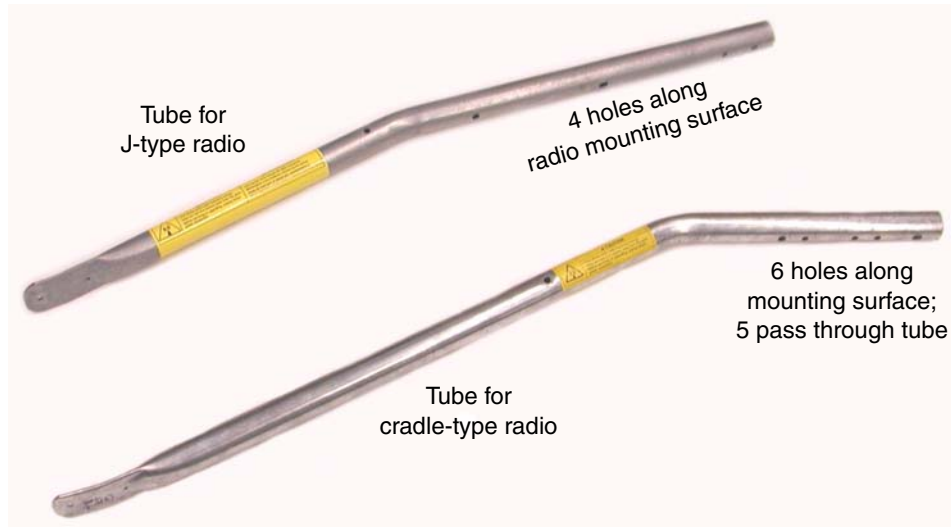
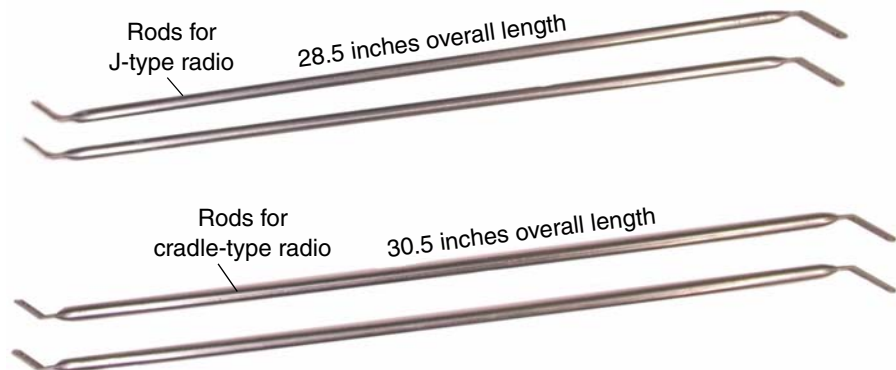

Figure 5: Feed support tubes (two types)
Figure 6: Feed rods (two types)
**Feed support tube and feed rods** The radio assembly mounts onto the feed support tube (Figure 5). The feed rods (Figure 6) attach to the reflector and support the feed support tube.
Each of the two antenna kits contains one feed support tube and two feed rods, for the radio type supported by the specific antenna kit. Figure 5 shows both types of feed support tubes for the two radio types. The feed support tube for the cradle-type radio is stamped *TG*. Other letters or numbers may appear with *TG*.
Figure 6 shows the two types of feed rods for the two radio types. The rods in the two antenna kits (for each radio type) are different lengths and are not interchangeable. The feed rods for the cradle-type radio are stamped *TG*. Other letters or numbers may appear with *TG*.